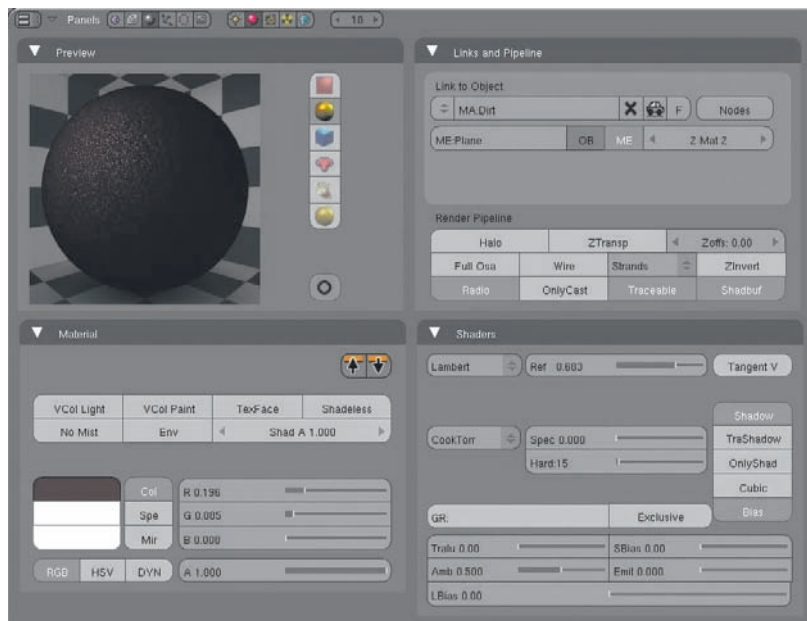
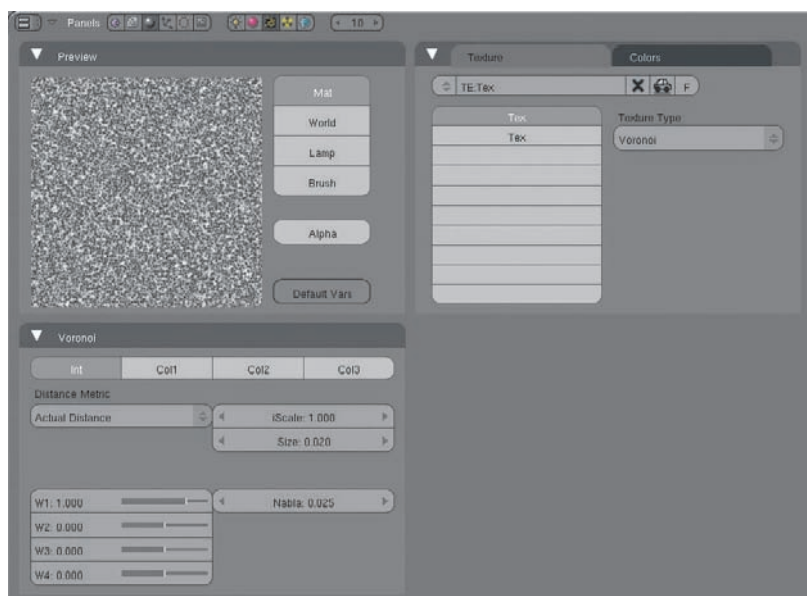

Figure 4.66 Dirt material
Figure 4.67 Voronoi bump texture
4. The Dirt material is shown in Figure 4.66. To create its rough surface, I used a Voronoi texture, as shown in Figure 4.67 as a bump map, with a Map To option of Nor and a Normal value of 1. I also used a noise texture that mapped to both Nor and Spec. On this texture, the Nor value was set to 0.5 and the DVar set to 0.8.